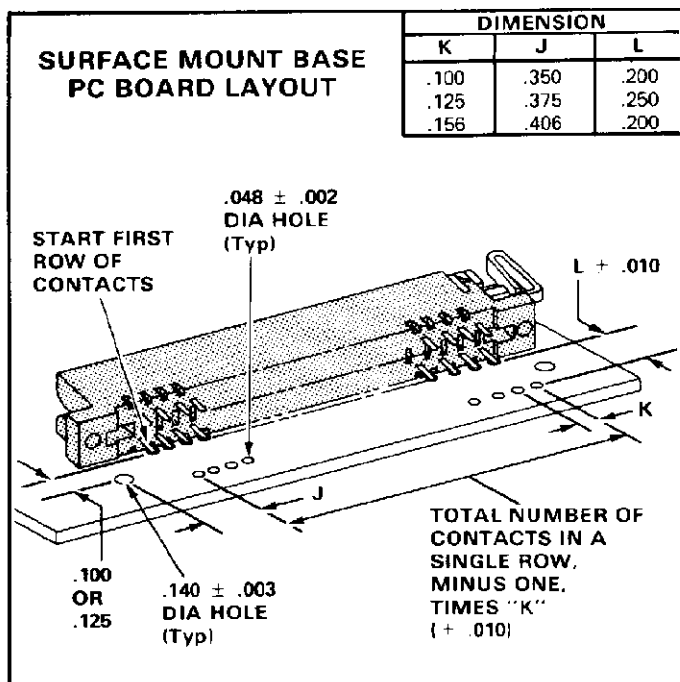

Fig. 4
#### A. Surface Mounting (Solder Tine and Posted Contacts – Figure 4)
1. Using the dimensions provided in Figure 4, make a layout on the base pc board.